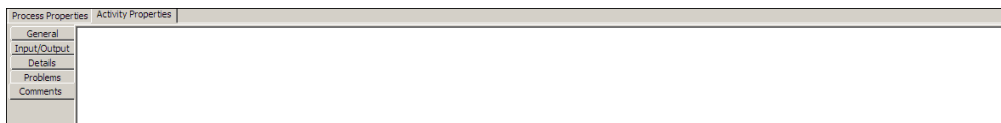

Figure 18: Comments Properties
1. Click **Comments** tab to display comments properties for the selected element (see Figure 18).